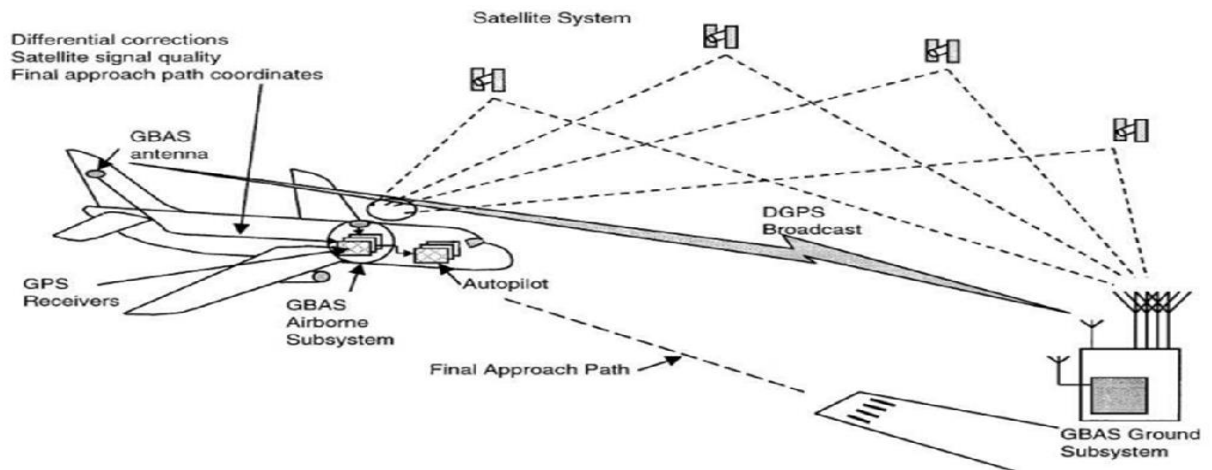

Figure 1
1. Figure 1, shows the GBAS automatic landing system. Define the word GBAS system, and explain the basic operation of this system